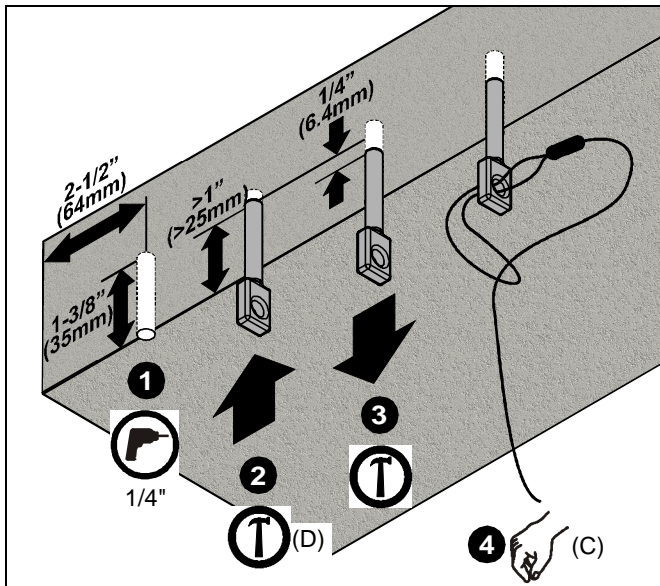

Figure 4
1. Drill 1/4" diameter x 1-3/8" deep hole at each marked cable anchor support location (See Figure 4). Ensure hole is at least 2-1/2" from nearest concrete edge. Remove debris from hole.
2. Tap anchor (D) into each hole to a depth of at least 1" (25mm) (See Figure 4).
3. Using claw portion of hammer, set each anchor (D) by pulling it out of hole approximately 1/4" (6.4mm). (See Figure 4)
4. Insert portion of manufactured loop on cable (C) through hole in anchor (D) (See Figure 4). Insert end of cable (C) through loop. Repeat for 3 remaining support locations.